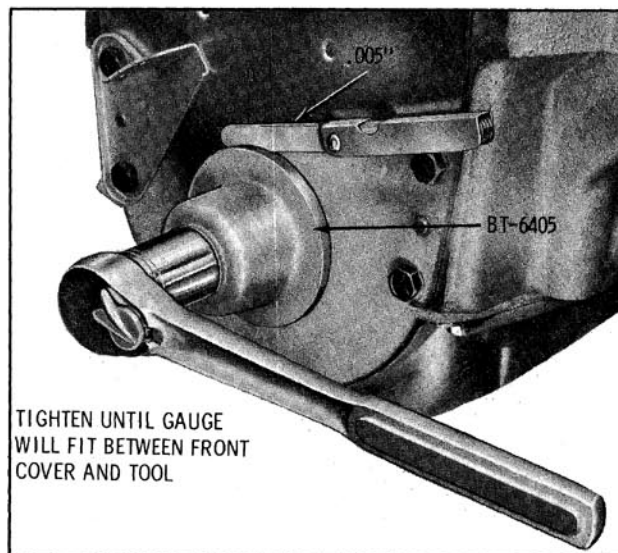

Fig. 3-92 Front Oil Seal Installation
2. Using Tool BT-6405, install oil seal as shown in Fig. 3-92.